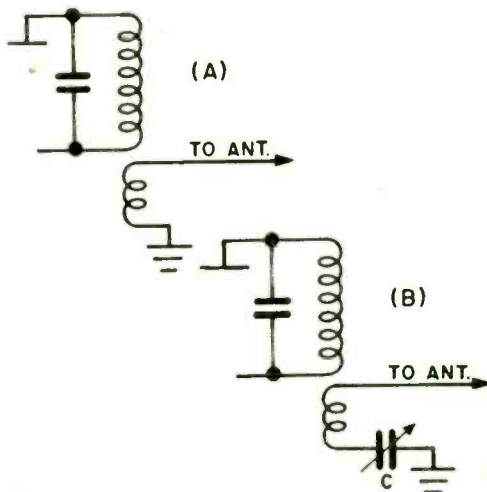

Fig. 5
major improvement which is possible with those CB transmitters having a fixed output link. Figure 5 illustrates the idea—a souped-up tank circuit. (A) shows a normal output tank coil with a link of one or two turns wrapped around it. These links are designed to operate with 50-ohm antennas. In many instances transmitters do not load up to full plate input because of reactances
existing in the antenna system. By adding a trimmer capacitor in the ground lead of the link, the reactances can be tuned out, permitting the transmitter to be loaded to full potential. This modification is shown in Figure 5 (B). The capacitor is a 50 mmf variable, adjusted for maximum loading of the transmitter.